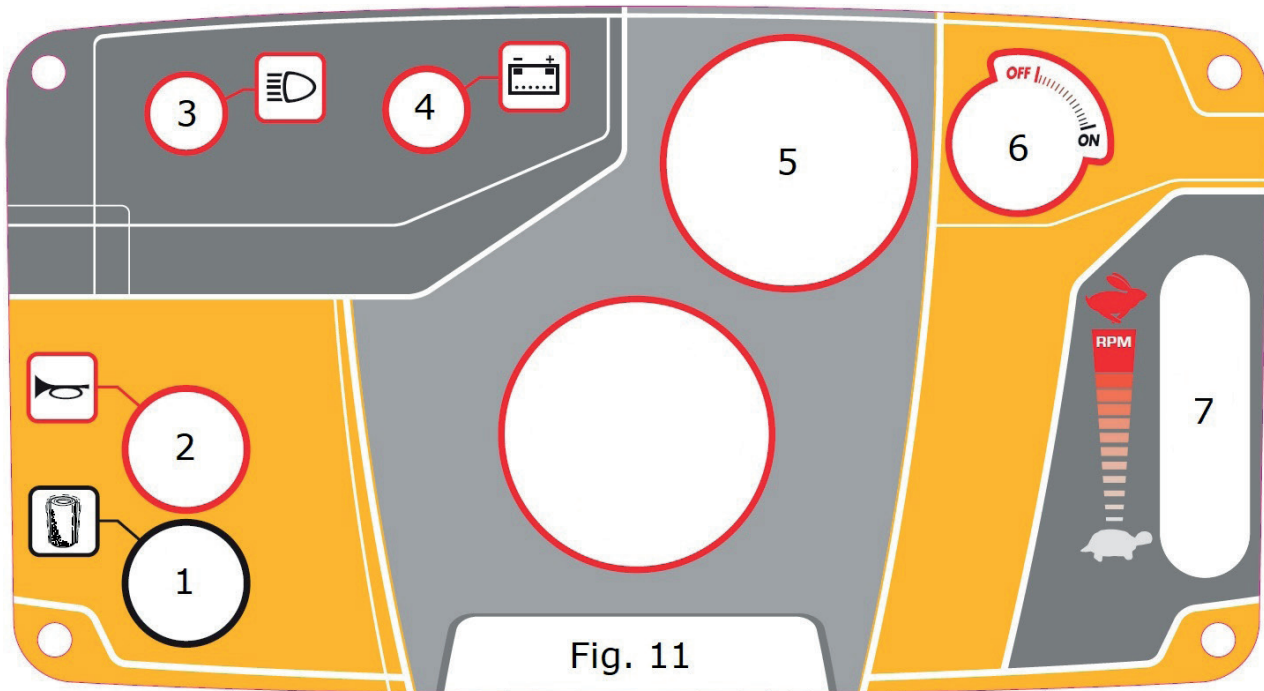

Fig. 11
Turn the ignition key counter-clockwise Detail 6 fig.11.
- Place the accelerator lever in the middle position **Detail 7 Fig. 11.**
- Turn the ignition key clockwise, past the first notch **Detail 6 Fig.11.** At the first notch, the battery LED **Detail 4 Fig. 11** is turned on (otherwise the battery is not sufficiently charged).
- Once the motor is running, let go of the ignition key and adjust the rpm from the accelerator lever **Detail 7 Fig. 11.** It is advisable to let the motor warm up at minimum rpm for a few minutes before starting
- Turn the ignition key **Detail 6 Fig. 11** counterclockwise.
Press the button **Detail 1 Fig.11** to make the filter vibrate prior to operation and prior to emptying out the debris hopper, for 5/6 cycles of 3/4 seconds each.
Press the button **Detail 1 Fig.11** to make the filters vibrate prior to operation and prior to emptying out the debris hopper, for 5/6 cycles of 4/5 seconds each.